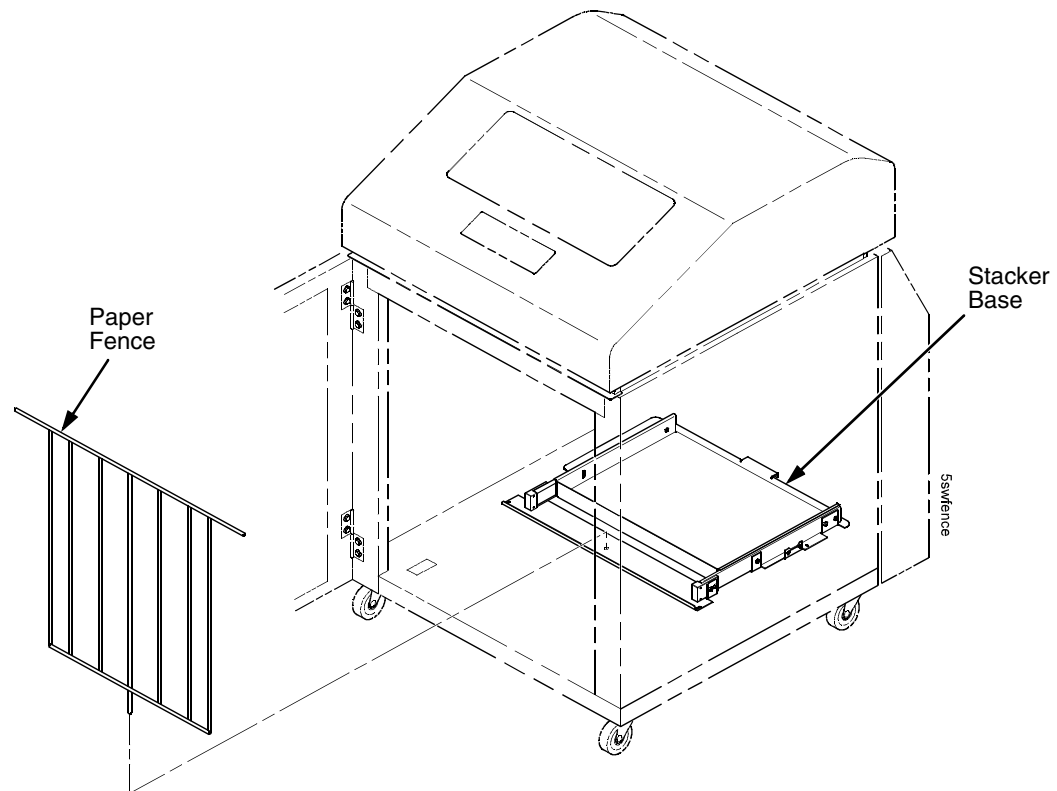

Figure 80. This figure shows how to install the paper fence in the cabinet.
33. Install the paper fence. (Figure 80.)